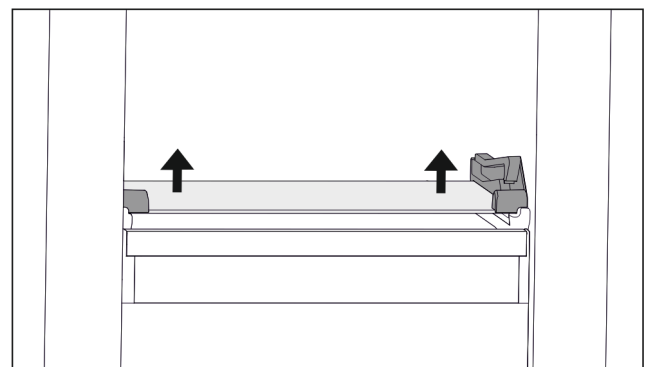

Fig. 131 Tilting drawer glass shelf
- ▶ Push glass shelf upwards from below on both sides. (see Fig. 131)